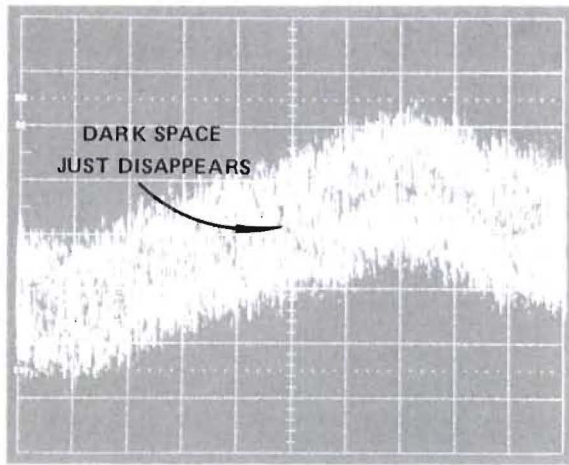

Figure 42 Offset Adjusted until Dark Area just Disappears
3. With both channels identically calibrated, adjust the voltage offset until the dark area between the two traces just disappears (Figure 42).